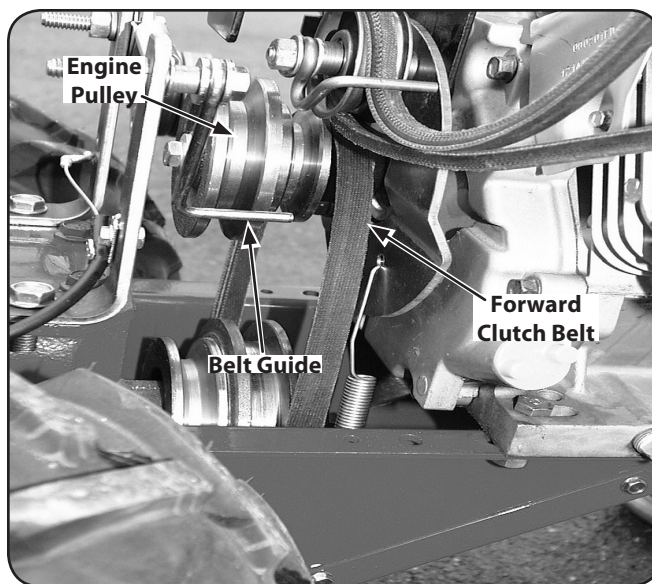
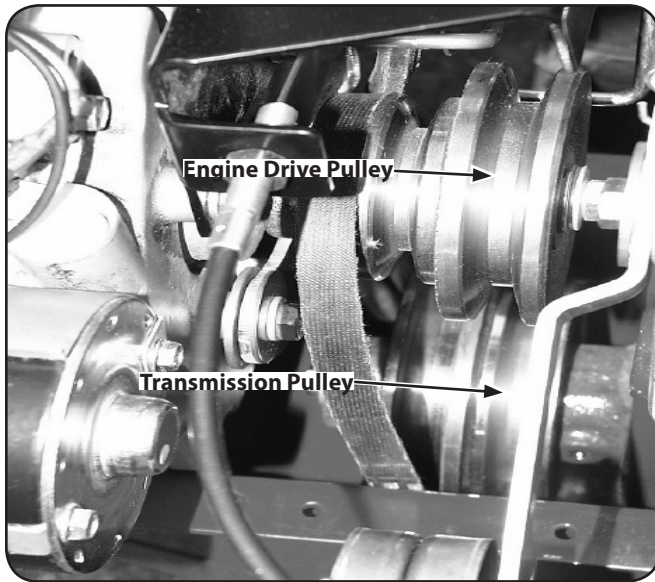

Figure 7-3
Figure 7-4
5. Slide the belt off the engine pulley, away from the engine, out from under the belt guide and completely off the pulley. See Fig. 7-3.
6. Slip the belt off the front of the transmission pulley. See Fig. 7-4.
9. Insert the bottom half of the belt into the smaller, rear-most groove of the transmission pulley. See Fig. 7-4. Now slip the top half of the belt under the belt guide (See Fig. 7-3) and onto the large groove of the engine drive pulley. See Fig. 7-4.